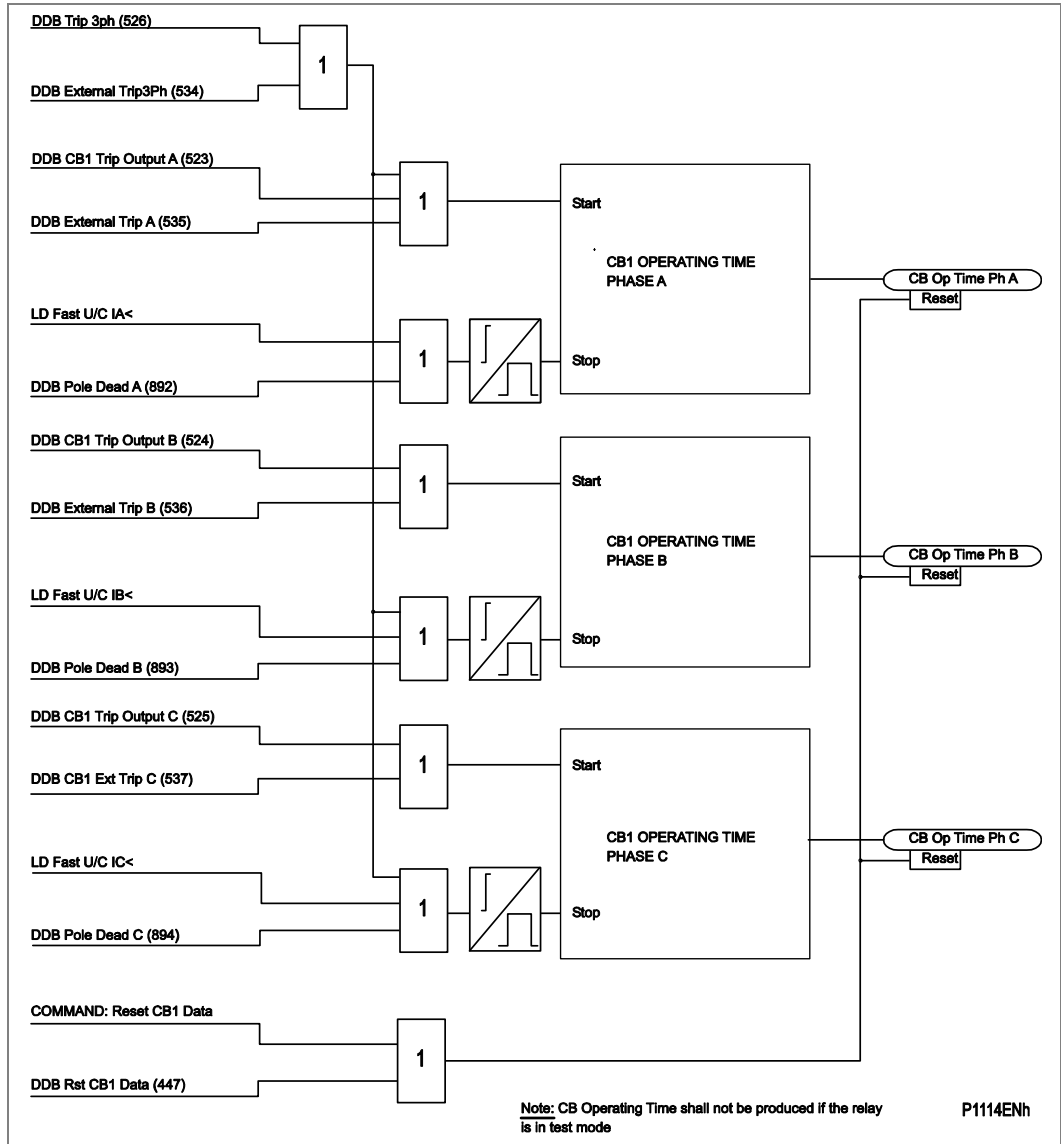

Figure 112 - CB1 condition monitoring - operation time
- Figure 112 - Circuit breaker 1 - monitoring